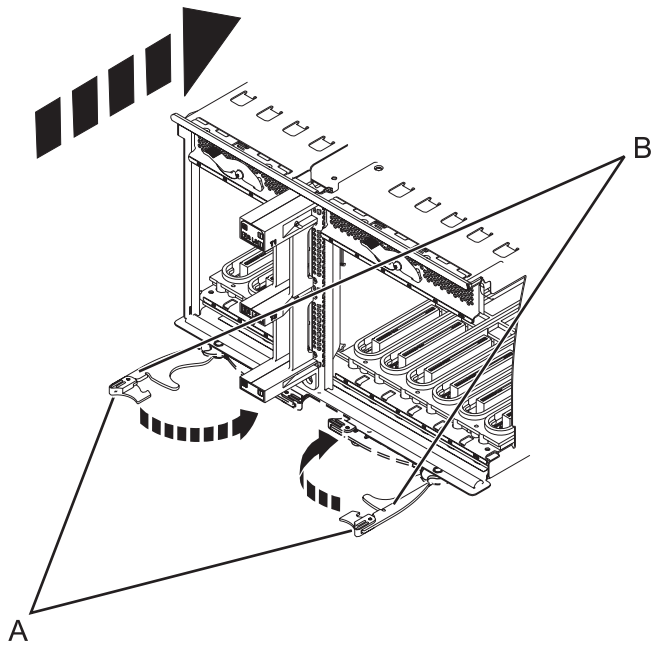

Figure 100. Install the I/O system board on a rack-mounted model
- Insert the I/O system board firmly into the server, as shown in Figure 100 on page 103.
- Secure the I/O system board with the locking tabs (A), as shown in Figure 100 on page 103.